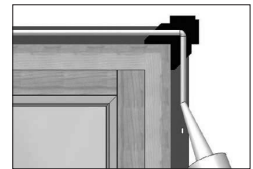

FIG. 7d
- d. Apply a 1/4" continuous bead of silicone in line with and completely covering the nailing flange holes. (Fig. 7d)